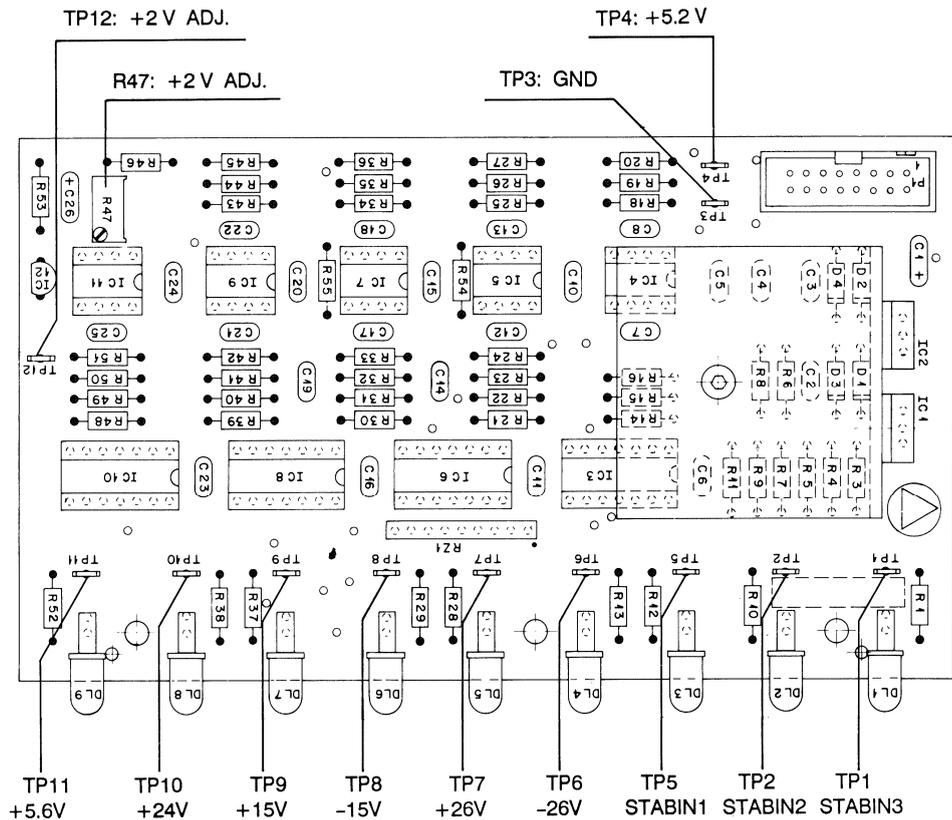
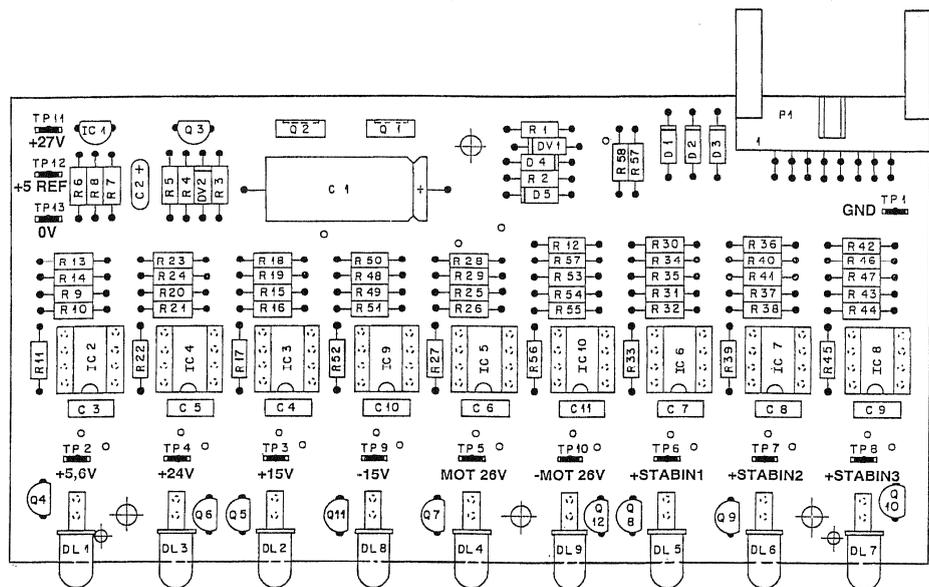

Fig. 1 Fuse/supply failure detector 1.820.866
Fig. 2 Fuse/supply failure detector 1.816.866.00
- The FUSE/SUPPLY FAILURE DETECTOR BOARD 1.820.866 is equipped with the necessary test points (see Fig. 1). For FUSE/SUPPLY FAILURE DETECTOR BOARD 1.816.866 see Fig. 2.